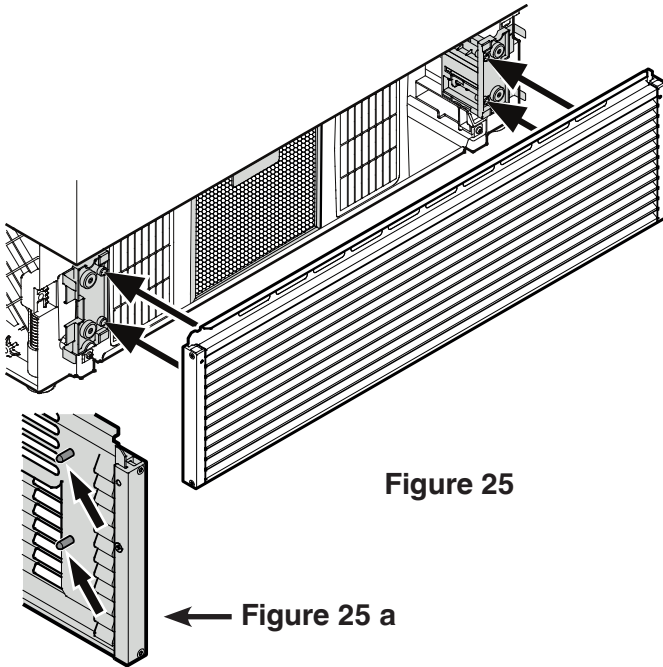

Figure 25
7. Install the ventilation grille (Figure 25).
The grille has bolts on the inside (see detail in **Figure 25 a**). These bolts must be inserted into the holes of the supports.
Figure 25 a